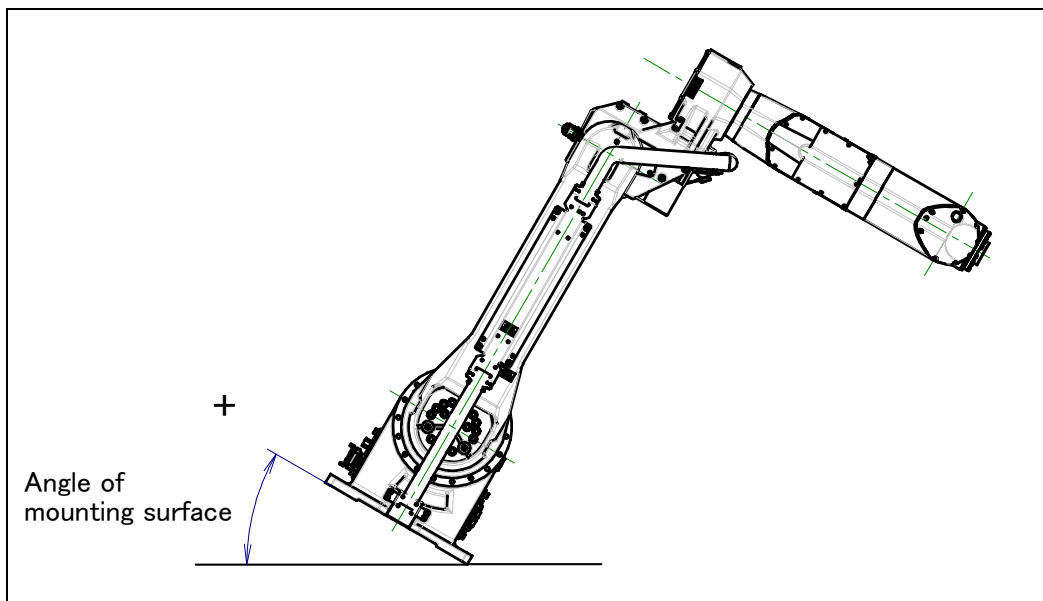

Fig.1.2.1 Mounting angle
- 6 Input mount angle referring to Fig.1.2.1.
- 7 Input the angle of mounting surface referring to Fig.1.2.1.